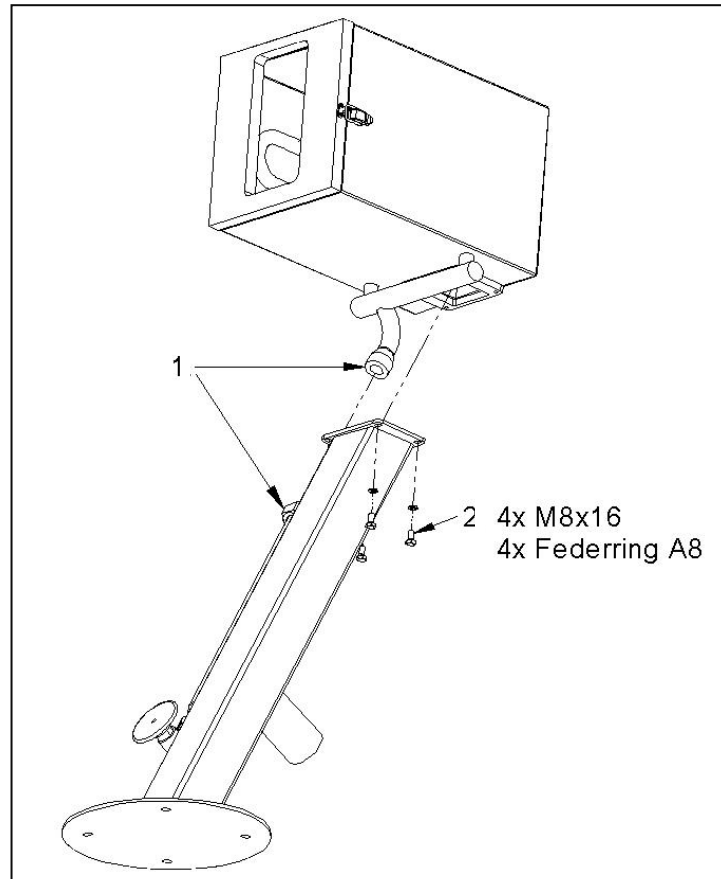

Fig. 5-1
1. Firmly screw the water tube (1) together (Fig. 5-1).
2. Screw the bottom part of the machine to the top part of the machine using the 4 screws (2) supplied (Fig. 5-1).